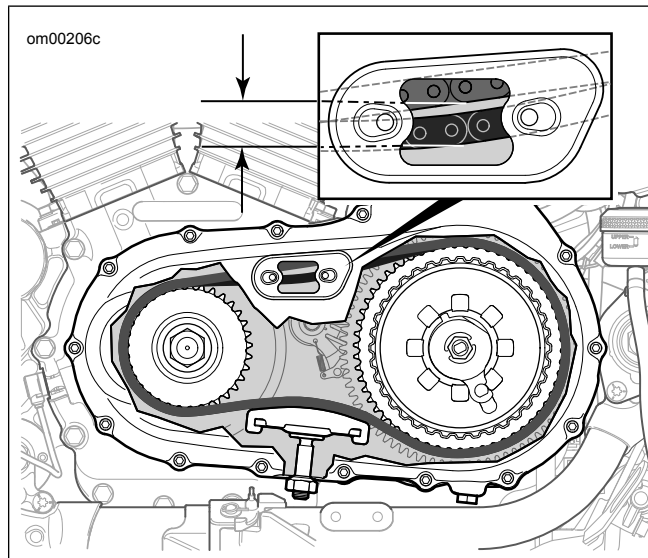

Figure 50. Primary Chain Free Play
3. See Figure 50. Check primary chain tension by measuring free play.